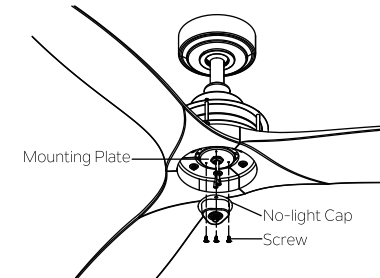

Fig. 19
**Step 2.** Attach the no-light cap to mounting plate with three mounting plate screws removed in previous step and securely tighten them. (Fig.19)